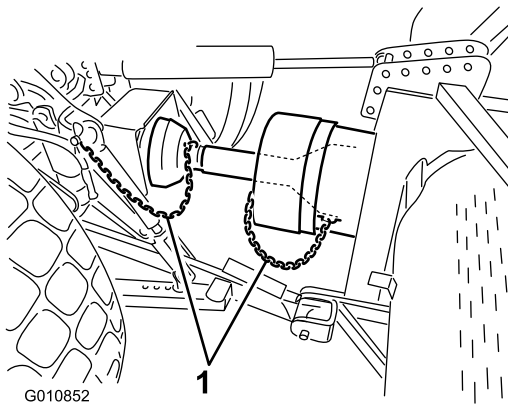

Figure 19
6. Connect the shield safety chains to the PTO shield and the tractor bracket (Figure 19). Make sure the chains remain slack when the aerator is raised or lowered.